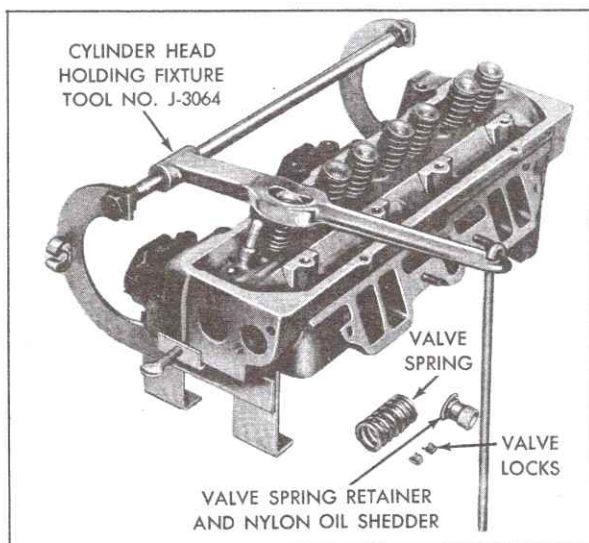

Fig. 6-126 Valve Spring Removal
5. Invert head and place Valve Spring Compressor Bar over valve stem, Fig. 6-126.